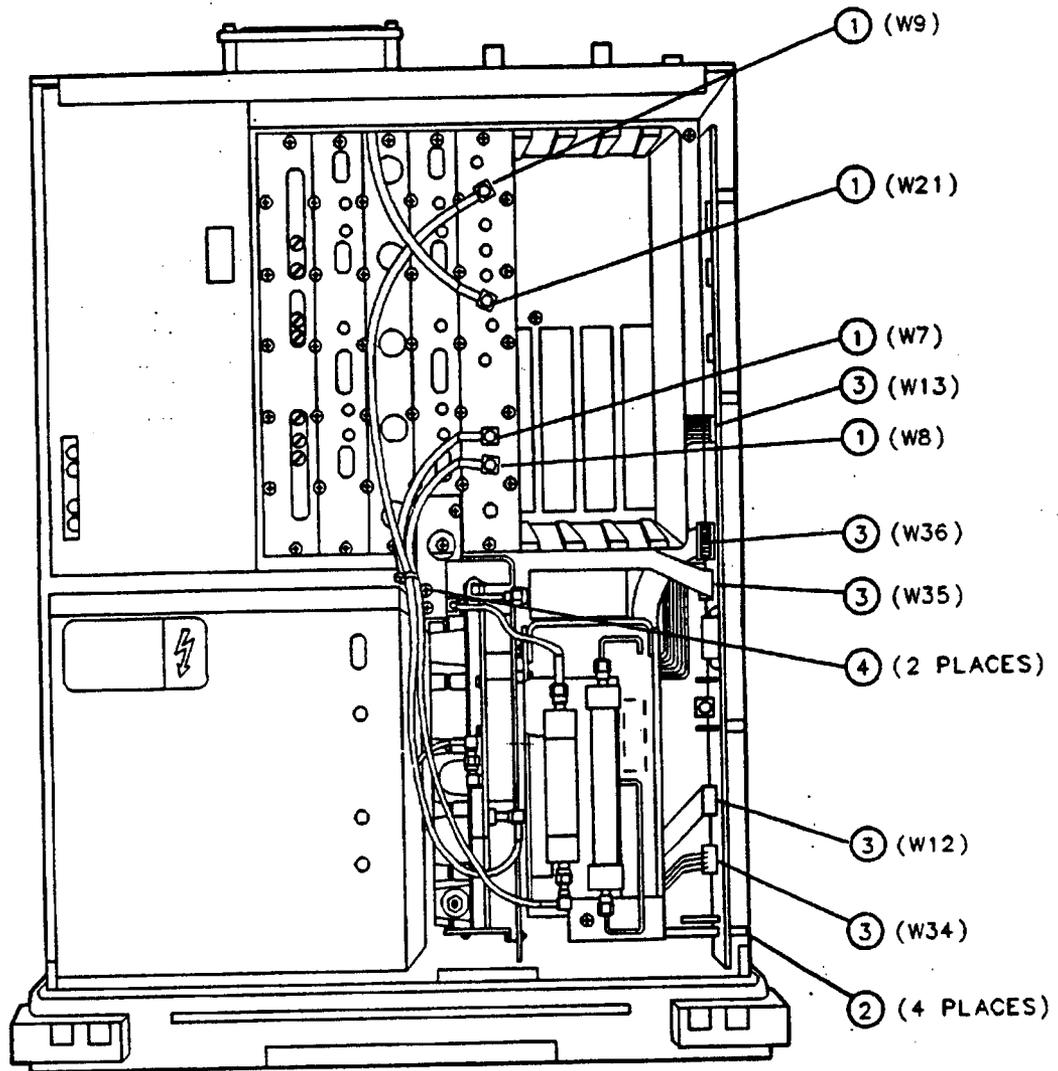

Figure 3-29. A15 Motherboard Replacement
3. Remove W7, W8, W9 and W21 (1) from the A9 Third Converter. See Figure 3-29.
20. Replace the five screws (9) that secure the A15 Motherboard to the instrument chassis.
21. Replace the five IF board assemblies (8) in the IF extrusion.
23. Replace the 40 screws (7) that secure the IF board assemblies to the IF extrusion.
24. Connect the B1 Fan wire harness (6) to A15J19 at the rear of the motherboard.
25. Connect the W19 coaxial cable (5) on A15J18 at the rear of the motherboard.
26. Replace the two screws and flat washers (4) on the front-end-to-IF support bracket. See Figure 3-29.